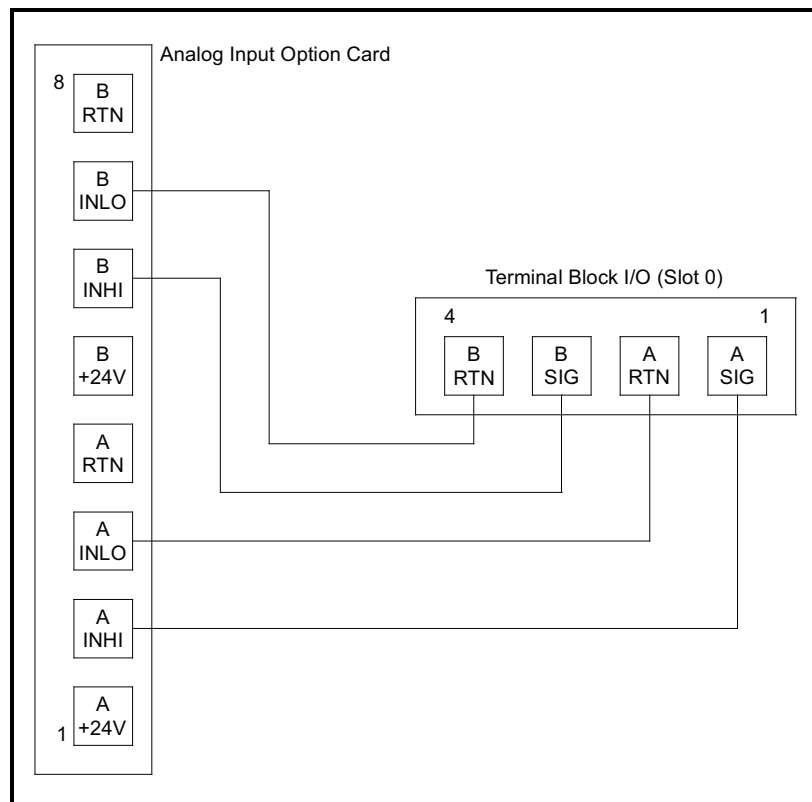

Figure 3: Analog Input Calibration Connections
Connect the **Slot 0** analog output(s) (or an independent calibrated current source) to the analog input(s) on the option card, as shown in Figure 3. Refer to the menu map in Figure 6 on page 15 as a guide.
The procedure for calibrating **Input A** is identical to that for calibrating **Input B**. However, when calibrating **Input B**, be sure a calibrated current source is connected to the appropriate pins on the terminal block. See Figure 3 on the previous page for the correct pin numbers. To calibrate a 0/4–20 mA input card, see the section below.
1. Connect the 4 mA current source to the currently selected analog input, as shown in Figure 3 on page 6.
1. Connect the 20 mA current source to the currently selected analog input, as shown in Figure 3 on page 6.